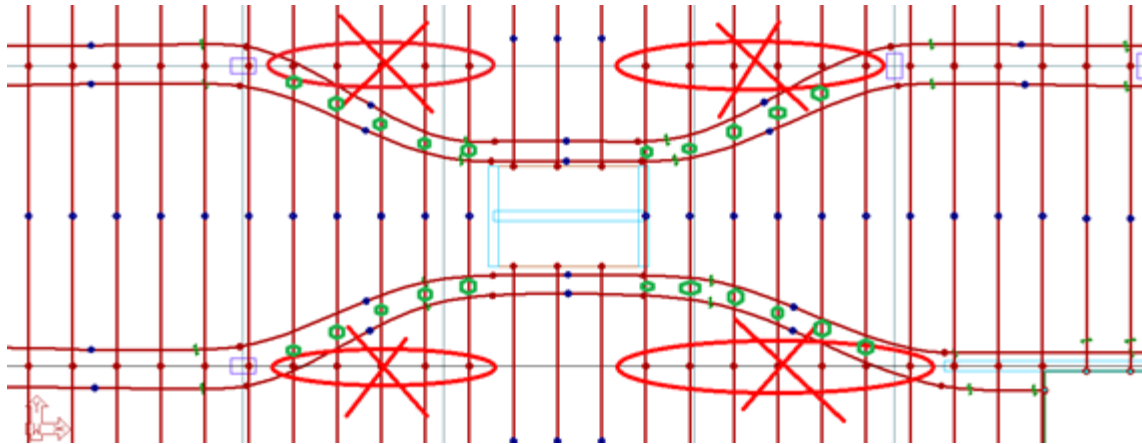

Figure 9-66
- The distributed tendon high points along gridline 3 and 4 should flow down with the banded tendons as illustrated in **FIGURE 9-66**.
- To move the control points to match **FIGURE 9-66**. **Left-click** on the tendon whose control point you want to move to select the tendon.